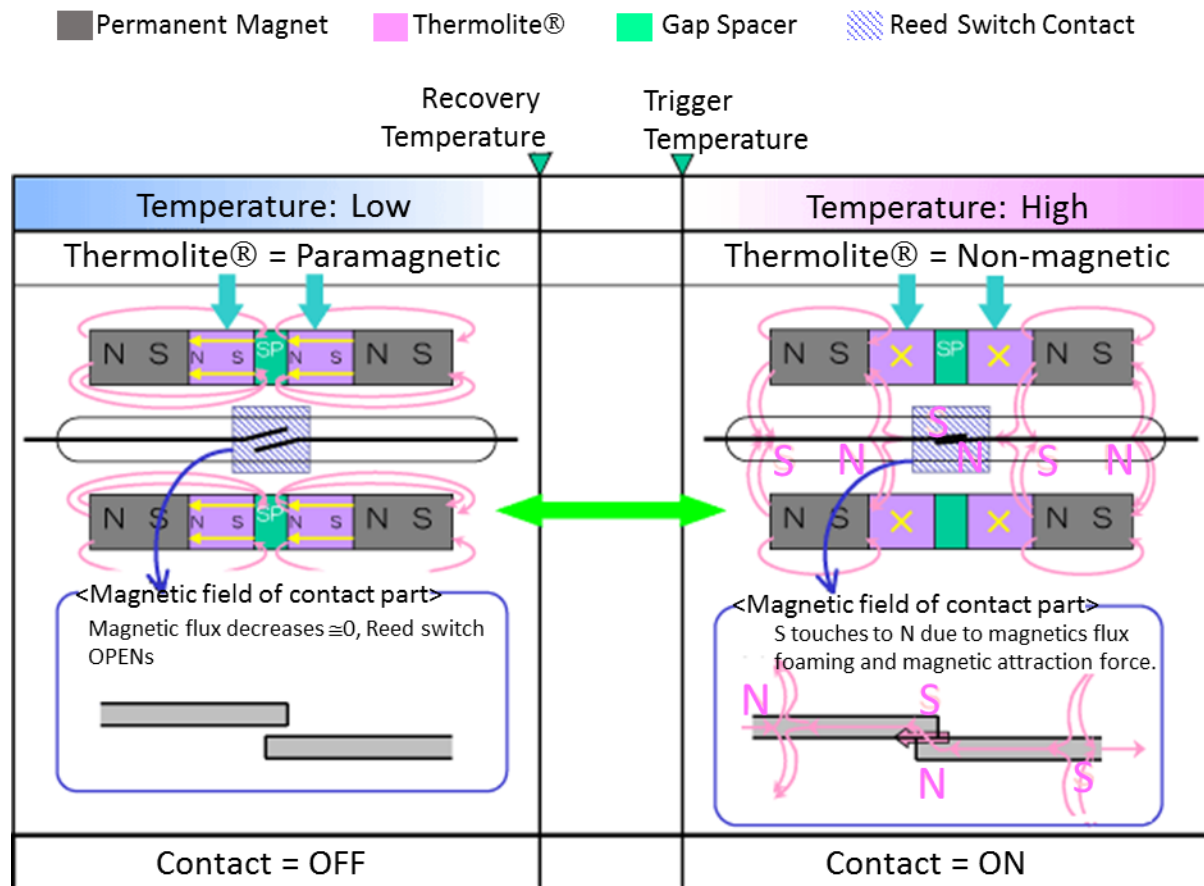

Figure 6: Make Type Sensor Operation Principal Detail
Make type sensor has a gap spacer in between Thermolite® material as shown in Figure 6. When the temperature is below a trigger temperature, permanent magnet and Thermolite® creates annular magnetic field and tips of the reed switch become apart (OFF). When Thermolite® reaches its curie temperature (trigger temperature), Thermolite® loses magnetic flux and becomes non-magnetic. Tips of the reed switch are induced to N polarity and S polarity. Tips of the reed switch touch due to magnetic attraction force, and the reed switch closes (ON).